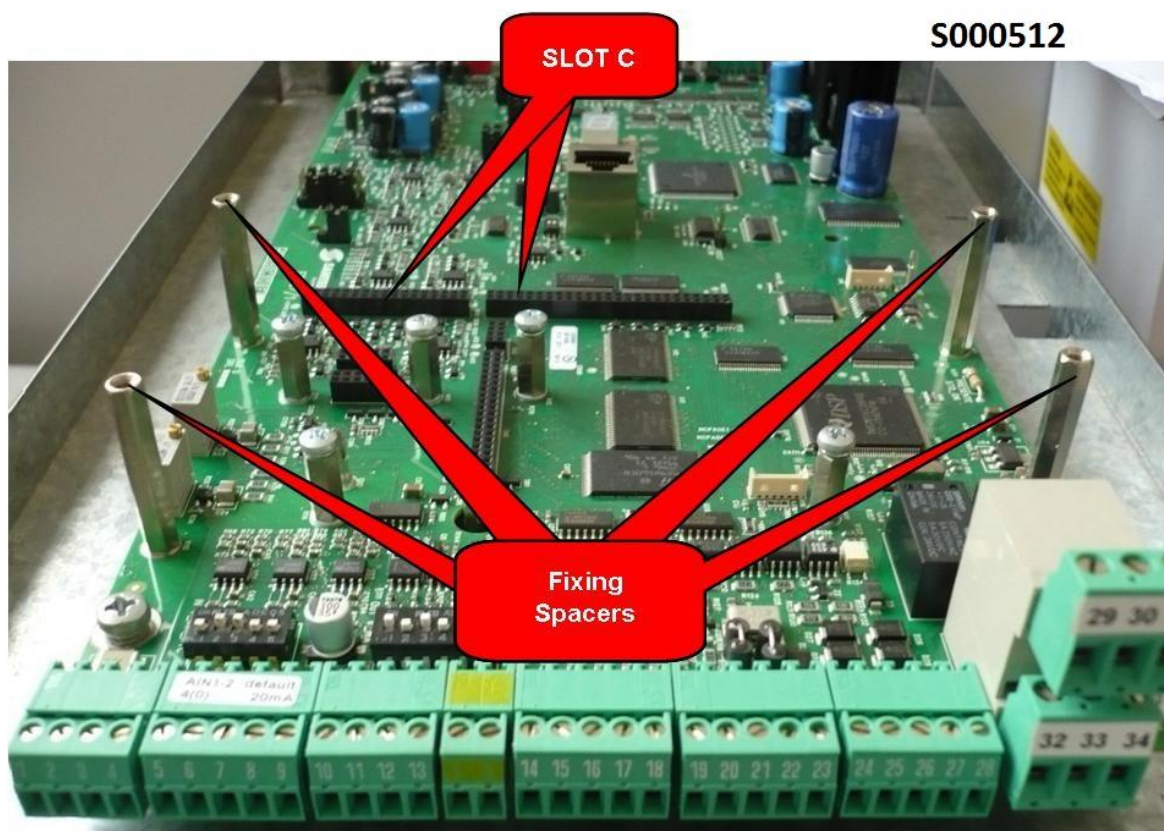

Figure 141: Location of slot C inside the terminal board cover
3. Loosen the two front screws located in the lower part of the inverter cover to remove the covering of the terminal board. You can then reach slot C in the control board where the ES988 is to be installed, as shown in Figure 141.